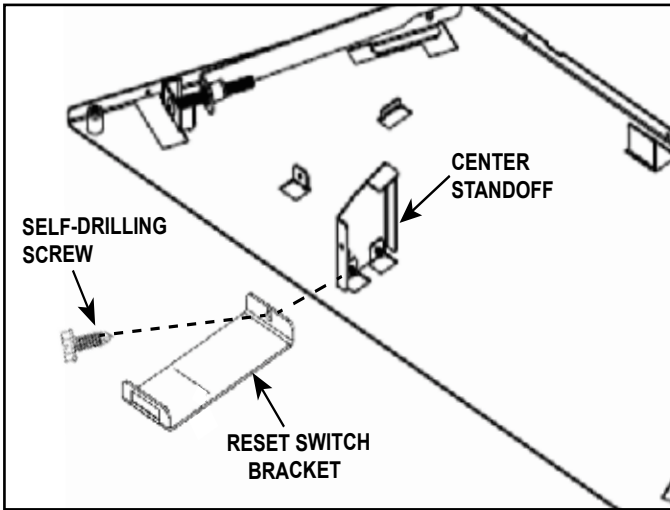

Figure 2 PROVIDENT/JASPER Bracket Location
1. Remove the shipping bracket from the surround. See Figure 2.
- Note:** For alternative rocker switch location using the rocker switch mounting bracket see Figure 2 for PROVIDENT/JASPER metal inserts and see Figure 3 for all other metal inserts.
ROCKER SWITCH MOUNTING BRACKET (OPTIONAL, SEE FIGURE 2)	2532-299